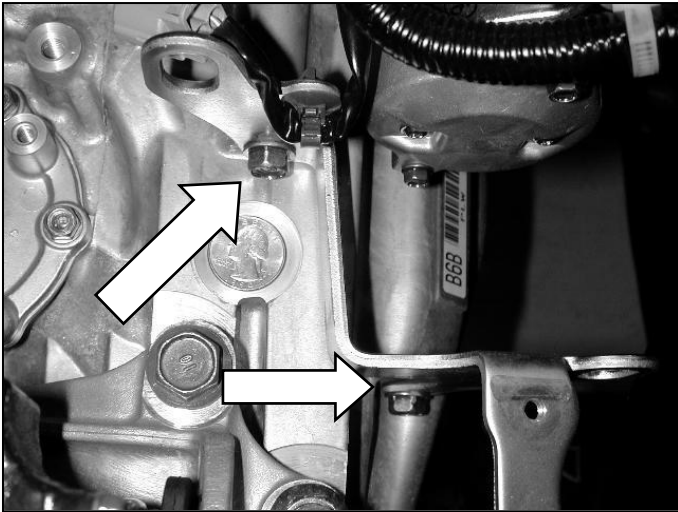

Fig. 7
- h. Loosen the two mounting bolts and remove the transmission bracket. **(Fig. 7)** Reinstall the back-up light switch and washer.